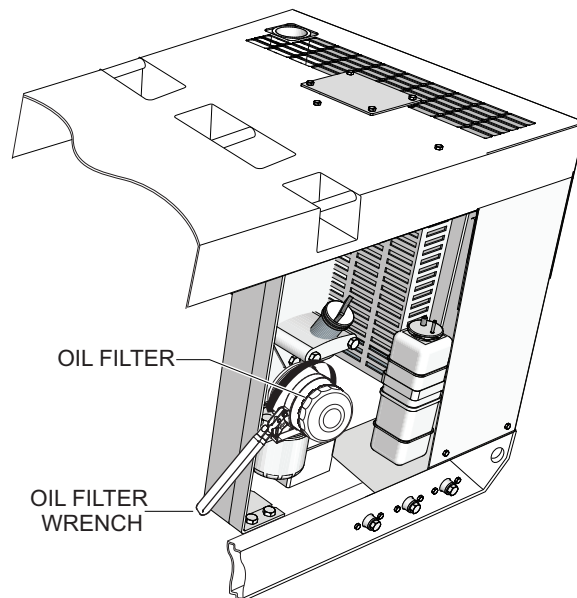

Figure 45. Engine Oil Filter Removal
1. Using an **oil filter wrench**, remove the engine **oil filter** (Figure 45).